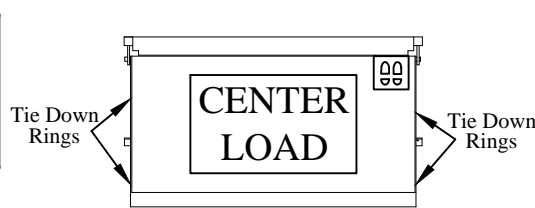

Figure 7: Step 10.
- D. Stand in the area indicated by the footprints in the figure below (Figure 7), keeping hands and feet away from the edges and any moving parts.